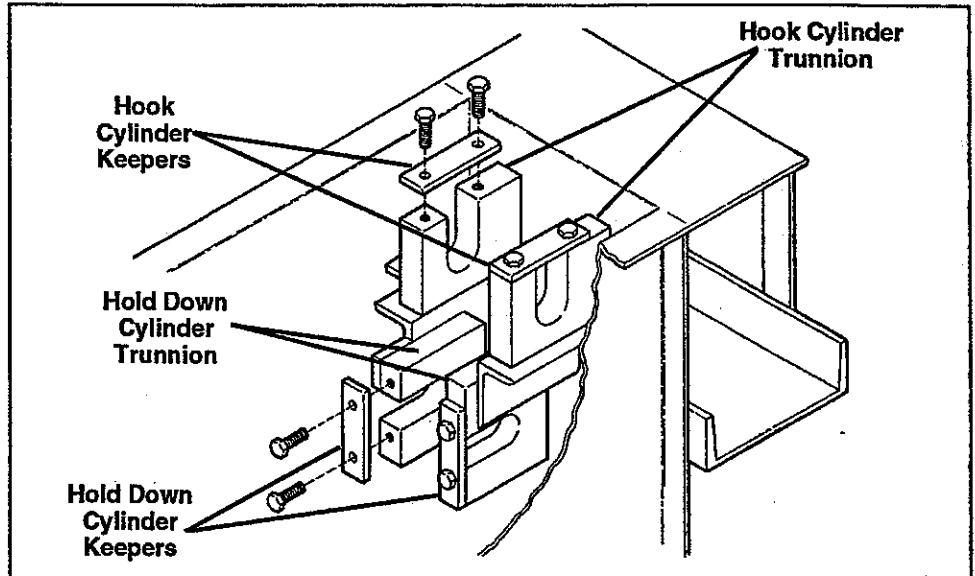

Fig. 26. Cylinder Trunnions and Keepers
- C. Remove the keepers from the hold down cylinder trunnion. See Figure 26.